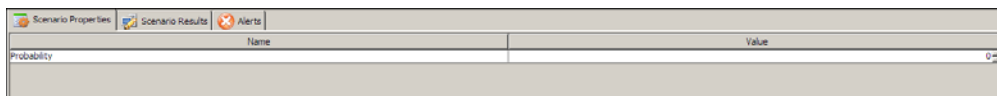

Figure 52: Assign Probability
1. If any decision node is used in the process flow, you can assign the probability for each possibility of the decision node. To assign the probability, double-click the sequence coming out of the decision node. Properties of the sequence flow are shown in *Scenario Properties* panel (see Figure 52).